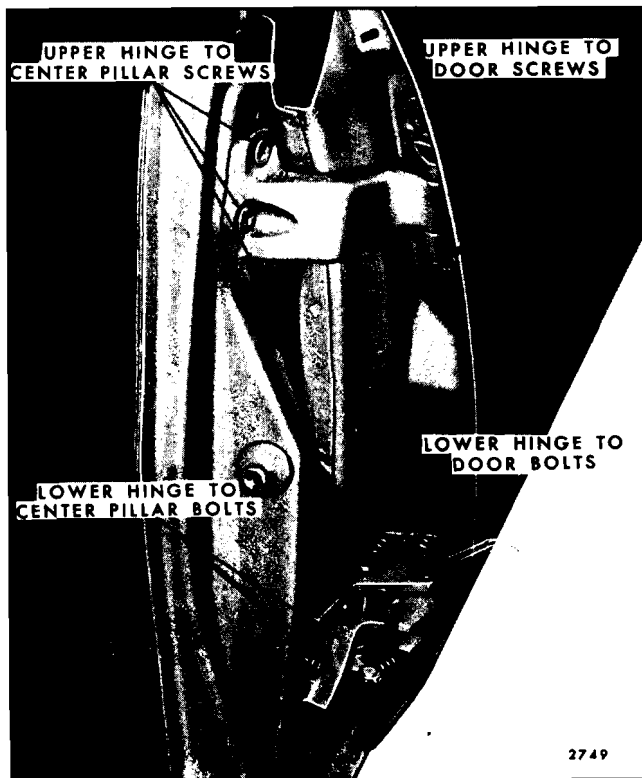

Fig. 6-115—Typical Rear Door Hinge Installation
3. With door properly supported, loosen upper and lower hinge attaching screws or bolts from door or center pillar and remove door from body. Figure 6-115 is typical of rear door hinge attachment.